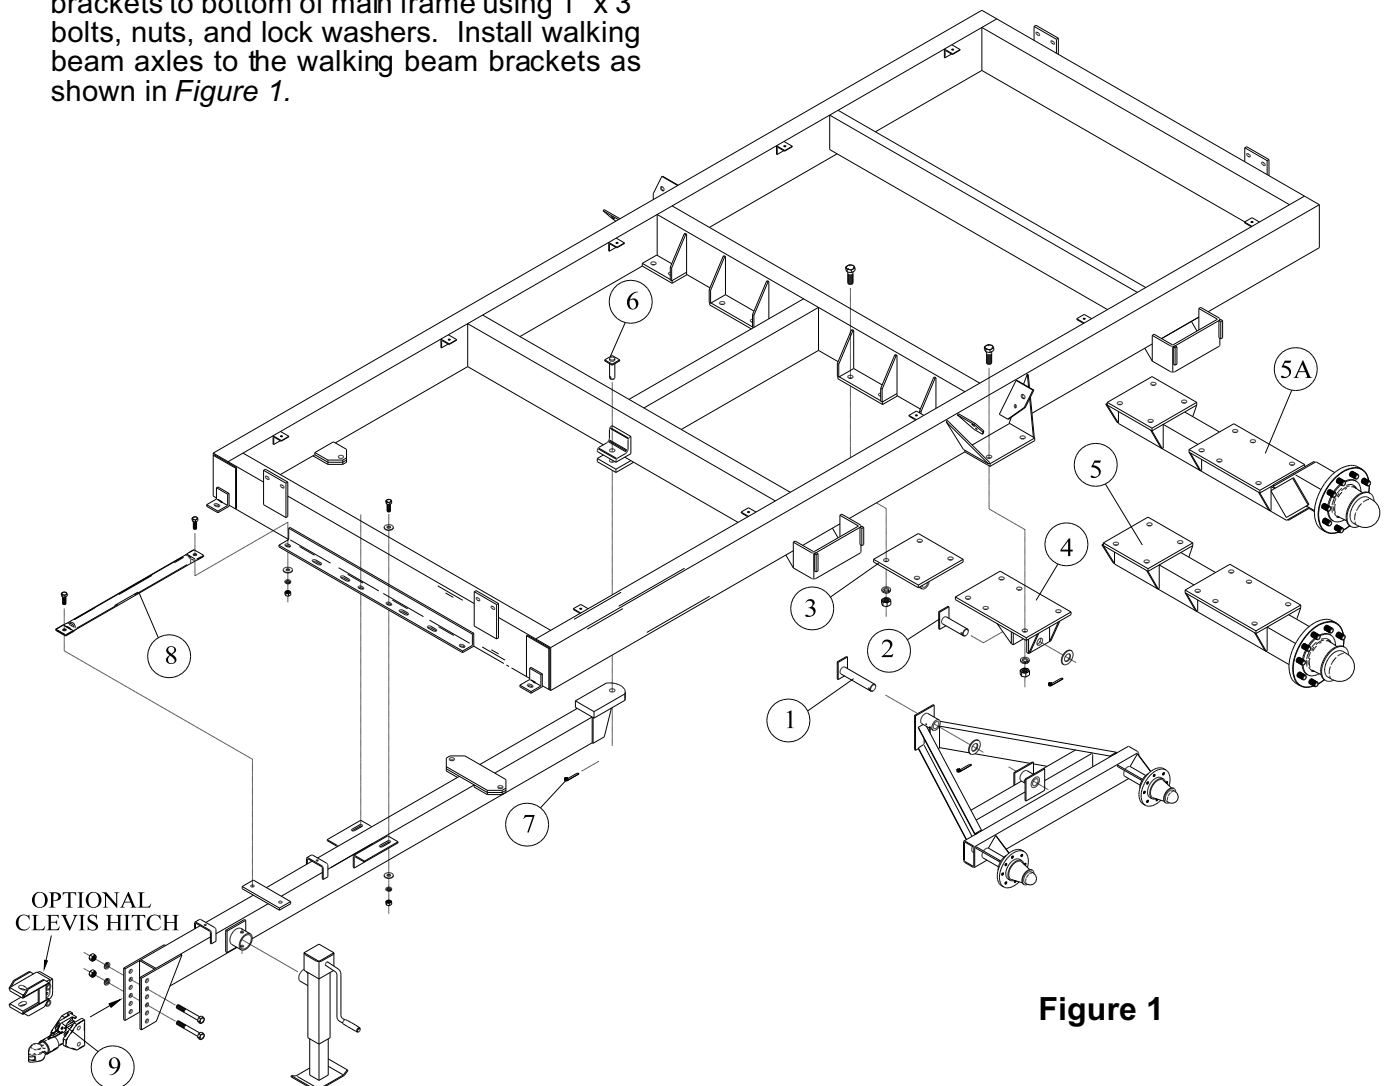

Figure 1
1. **WALKING BEAM** -Refer to Figure 1. Remove walking beam axle pivot pins from parts box (Items 1 & 2) and walking beam attaching brackets (Items 3 & 4). Install walking beam brackets to bottom of main frame using 1" x 3" bolts, nuts, and lock washers. Install walking beam axles to the walking beam brackets as shown in Figure 1.
2. **SINGLE AXLE** -Refer to Figure 1. Install single axle frame (Item 5 or Item 5A) to bottom of main frame using 1" x 3" bolts, nuts, and lock washers.
3. **TONGUE** -Refer to *Figure 1*. Insert tongue swivel flat on end of tongue into clevis on center frame cross tube. Insert pin and cotter (Items 6 & 7). Install 5/8" x 1 3/4" bolts with flat washers through angle on front of frame and through slots in angle on the side of the tongue. **DO NOT TIGHTEN AT THIS TIME.** Attach diagonal pipe braces (Item 8) to flat bar on tongue and to outside angle on front of frame. Secure with 5/8" x 1 3/4" bolts, flat washers, lock washer, and hex nuts. Tighten all bolts securely at this time.
4. **HITCH** - Install hitch (Item 9 - *Figure 1*) using two (2) 3/4" x 6" bolts, hex nuts, and lock washers. Several mounting holes are provided in the tongue so the frame may be leveled when installed on the different tractor drawbar heights. The clevis hitch may be installed two different ways providing eight (8) different drawbar heights. The ball hitch mounts only one way providing four (4) different heights.